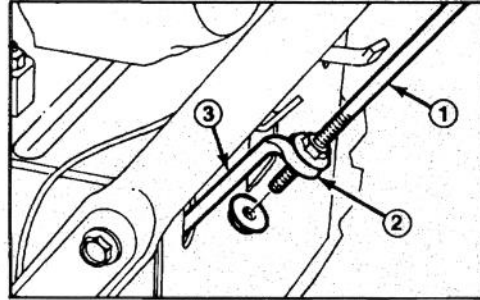

Figure 3
2. Insert traction rod through loop in lower traction rod (Fig. 3).
3. Thread a flange nut (flange side up) onto bottom of traction control rod to loop in lower traction rod (Fig. 3).